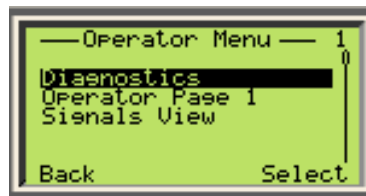

Figure 49: Operator menu, diagnostics screen
1. Press the left soft key to access the **Operator Menu > Diagnostics** (Figure 49).